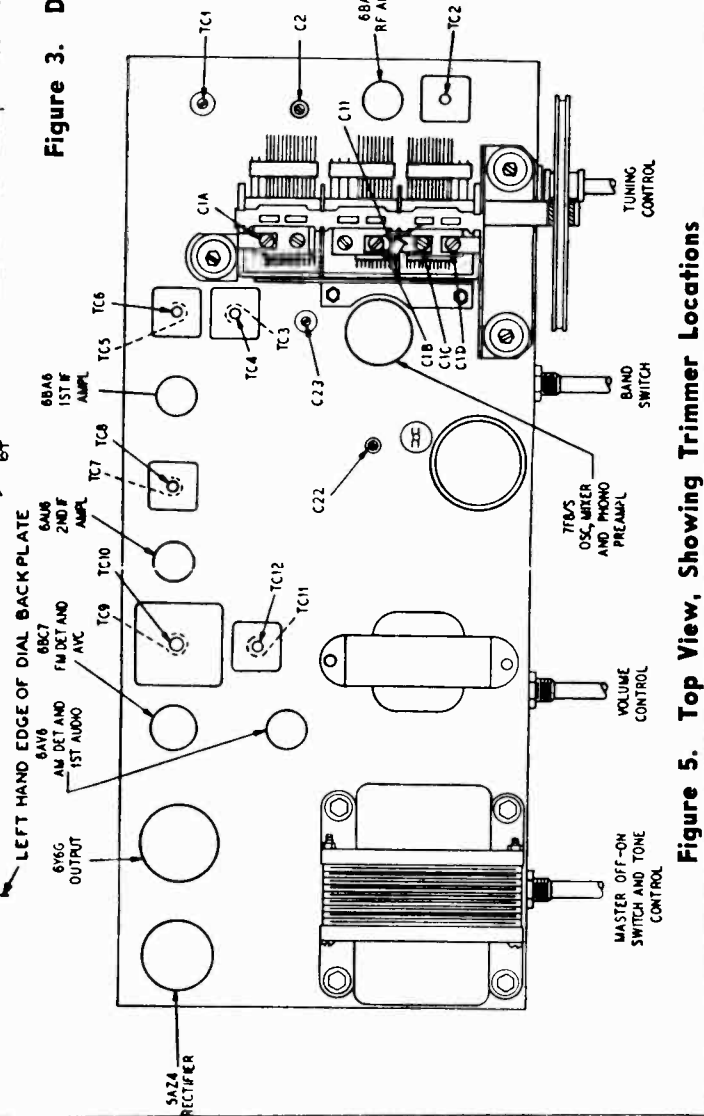

Figure 5. Top View, Showing Trimmer Locations
**DIAL POINTER:** Calibration and pointer-index measurements are shown in figure 5. With tuning gang fully meshed, set 68A6 RF AMPL pointer to index mark.